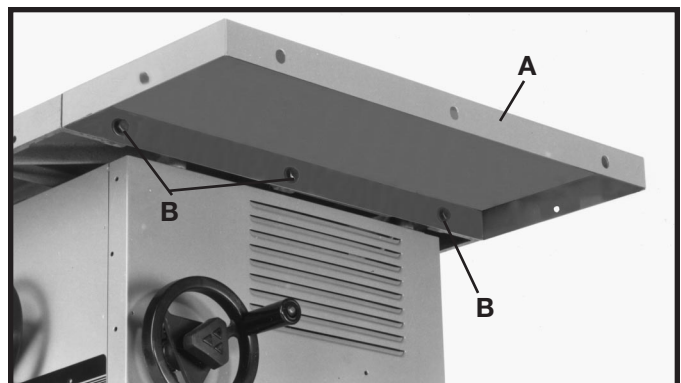
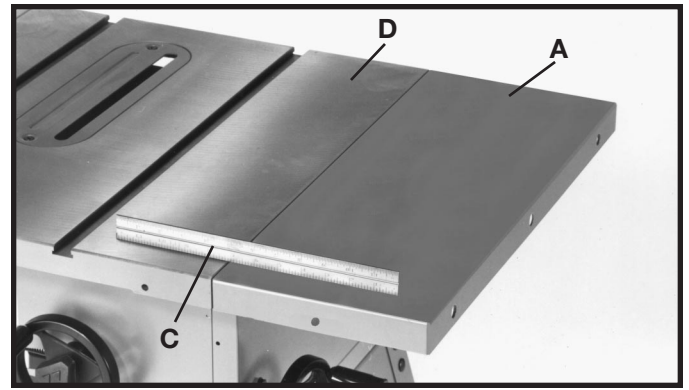

Fig. 9
Fig. 10
1. Align the three holes in the extension wing (A) Fig. 9, with the three holes in the side of the saw table. **NOTE: DO NOT TIGHTEN HARDWARE AT THIS TIME.** Place a 5/16" lockwasher and a 3/8" flat washer onto a M8x1.25x16mm hex head screw. Insert the screw through the hole in the extension wing and thread the screw into the tapped hole in the side of the saw table. Repeat this process for the two remaining holes in the extension wing and the saw table.
2. With a straight edge (C) Fig. 10, make certain the extension wing (A) is level with the saw table (D) before tightening three screws (B) Fig. 9.